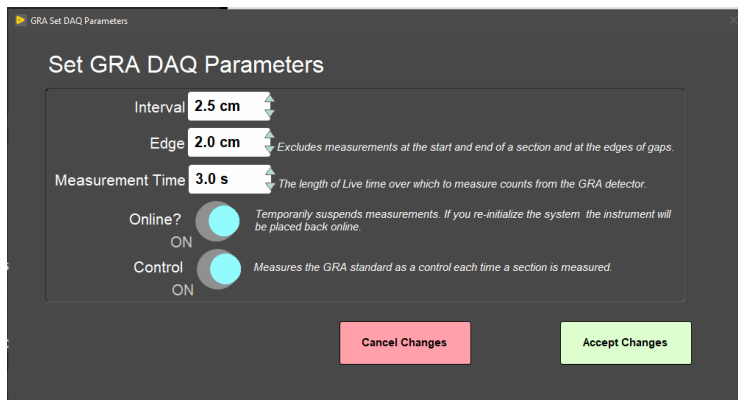

Figure 3. GRA DAQ Parameters window
3. In the instrument **DAQ Parameters** window the user may alter the settings for each instrument (*Measurement Interval, Edge, Acquisition Time*, Setting the Instrument *Online* or *Offline* and Setting the *Control* of the measurements On or Off). Select **Accept Changes**. The changes will be written to the configuration file (Figure 3).